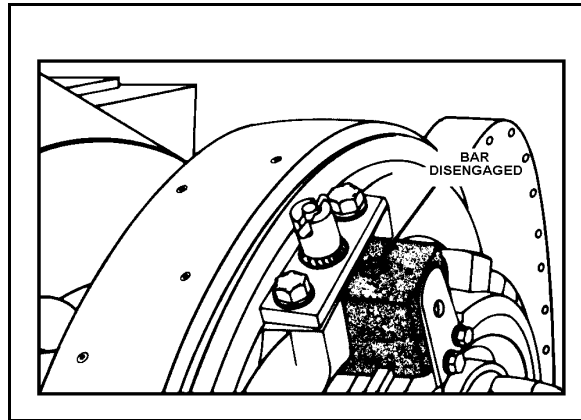

Figure 21-15. Wildcat Disengaged
- Wildcat is disengaged (Figure 21-15, page 21-17).